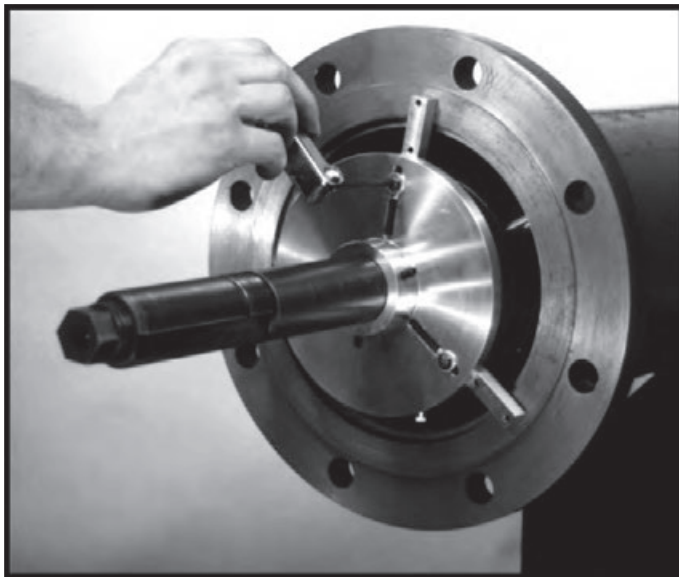

Figure 3-17.
9. Extend the alignment arms, if necessary, with the supplied hex key set. (Figure 3-17).